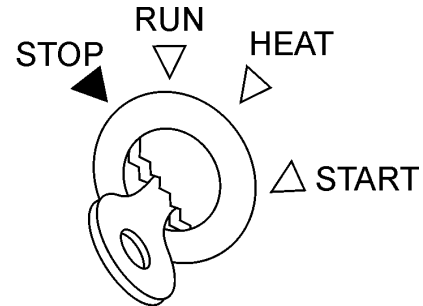

Figure 34. Starter Switch (Stop Position)
4. Place the starter switch key (Figure 34) in the **STOP** position and remove the key. Place fuel cock lever in the **OFF** position.